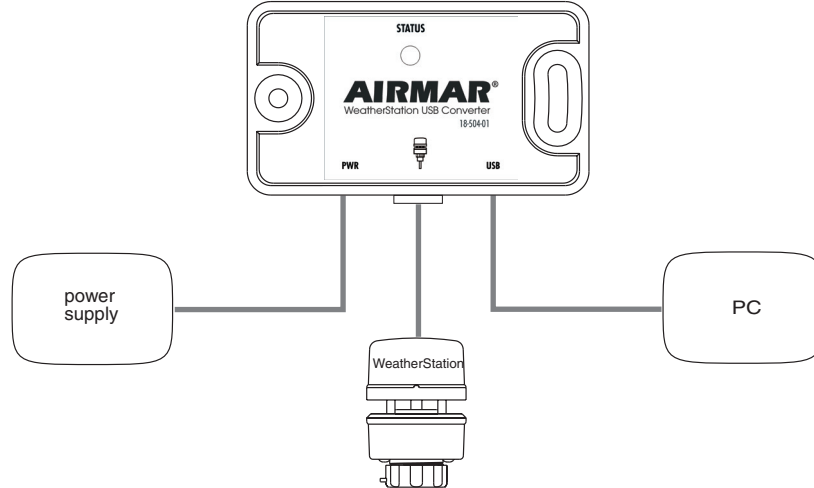

Figure 6. Converter installation
1. Select a convenient, dry, mounting location for the water-resistant Converter, about 1 – 2 m (3' – 6') from the PC (see Figure 6).